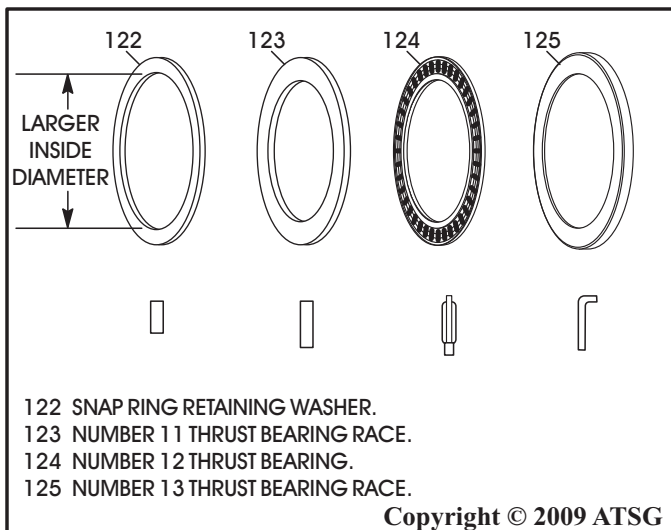

Figure 122
**Note:** Snap ring retaining washer has larger inside diameter, as shown in Figure 122.
**Caution:** Thrust washers and thrust bearing, illustration numbers 122, 123, and 124, must be installed in the order shown in Figure 122. Failure to do this will result in transmission damage or gear train locked when oil pump is tightened. The number 13 thrust bearing race will be installed on high & low/reverse clutch housing.